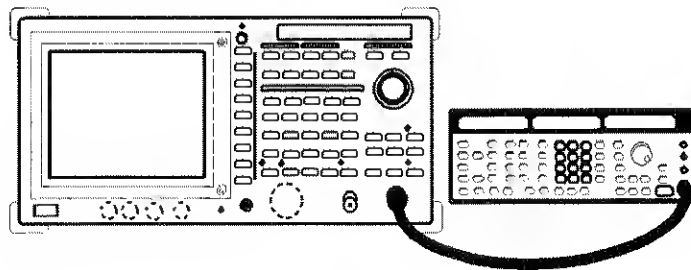

Figure 2-41 Setup for Verifying the Dynamic Range
1. Connect the signal generator as shown in Figure 2-41.